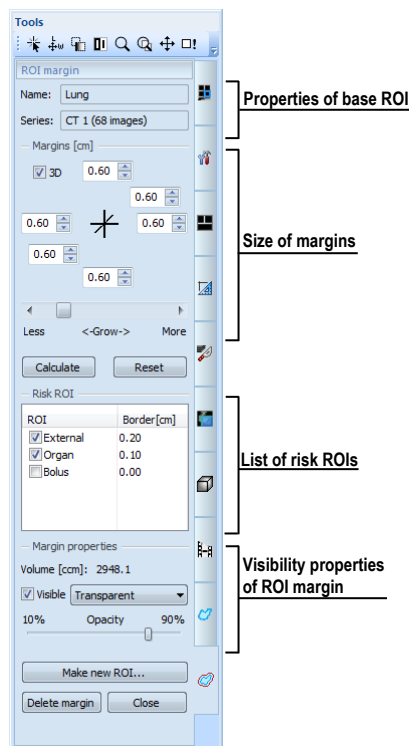

Figure 243 – ROI margin tool
3. The **ROI margin** tool is then automatically displayed as a new tab in the tools panel where you can define the parameters for the ROI margin (see Figure 243).